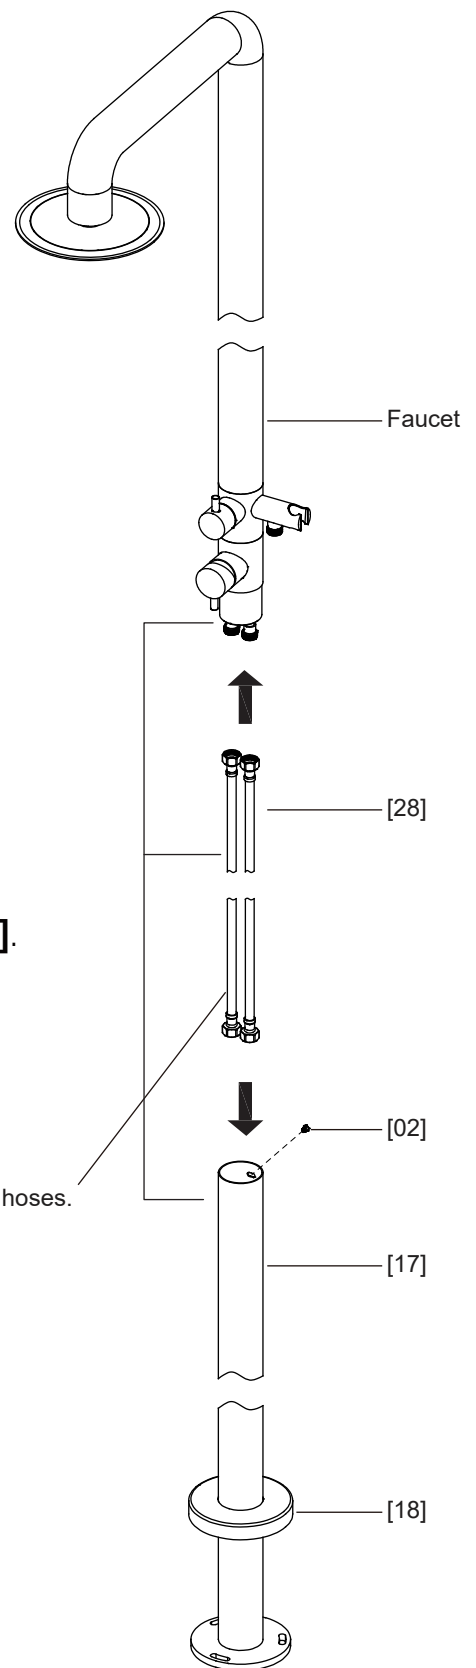

Fig 2
- 2-1** Install the **Hoses [28]** to the **Faucet**. Connect the hose labeled "Hot" to the hot-water inlet of the faucet. Connect the hose labeled "Cold" to the cold-water inlet of the faucet. Tighten the hoses to secure. Do not overtighten. (Fig 2)
- 2-2** Slide the **Escutcheon [18]** onto the **Post [17]**, as shown in Fig. 2.
- 2-3** Slide the **Hoses [28]** to the **Post [17]** and install the **Post [17]** to the **Faucet** as figure shows. Make sure the side holes of the **Post [17]** align with the screw holes of the **Faucet**. (Fig 2)
- 2-4** Secure the **Post [17]** to the faucet with one **Screw [02]**. Do not tighten it. (Fig 2)